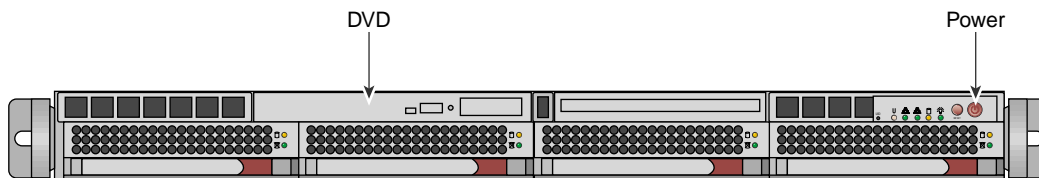

Figure 2-1 System Admin Controller Power On Button and DVD Drive
1. Turn on, reset, or reboot the system admin controller. The power on button is on the right of the system admin controller, as shown in Figure 2-1 on page 34.
2. Insert the SGI Admin Node Autoinstallation DVD in the DVD drive on the left of the system admin controller as shown in Figure 2-1 on page 34.